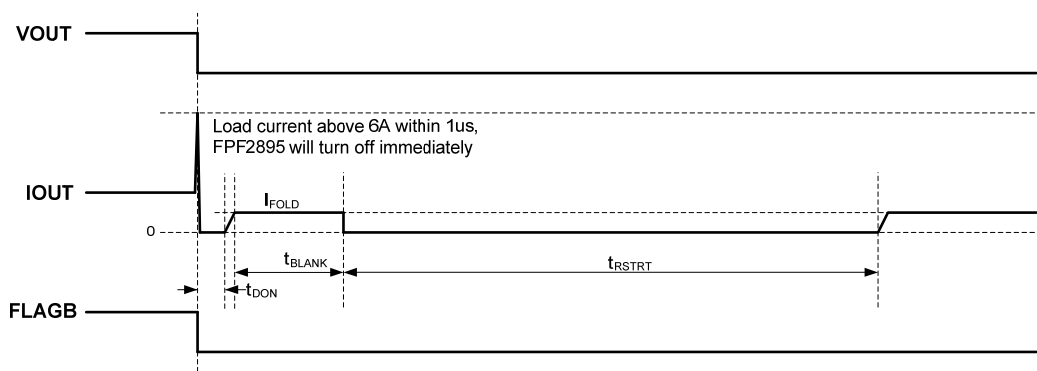

Figure 9. VOUT Hard Short to GND (OC_MODE=HIGH & FLAGB is pulled up with an external VIO)
5. 6 A absolute limit current value. See Figure 9. for protection timing diagram.